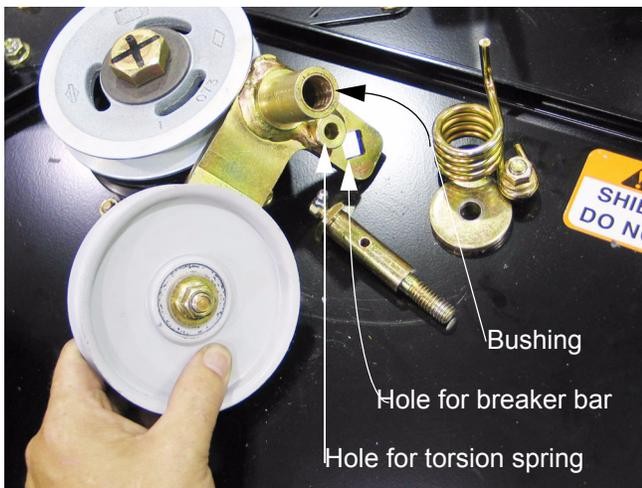

Figure 6.2
- 6.2. The bolt is rifle-drilled to provide for grease access to the bushing in the idler arm. The bushings are replaceable. See Figure 6.2.